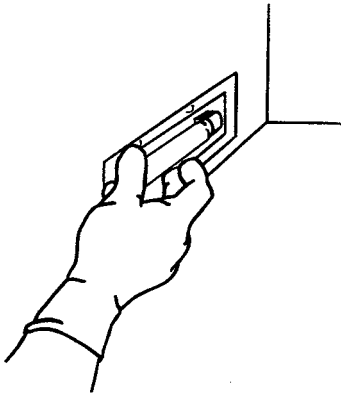

Figure 79
- c. Wear protective gloves to remove defective bulb and replace with functioning bulb. See Figure 79.